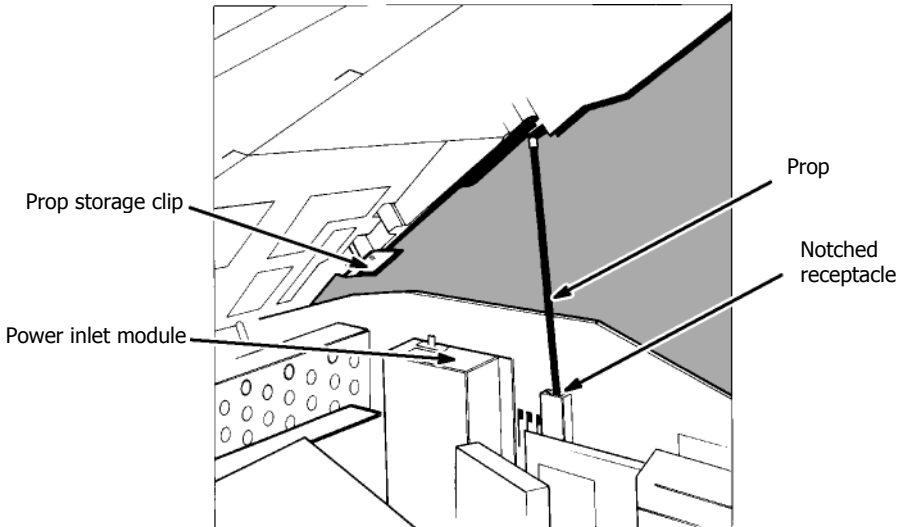

Figure 2 Propping Open the Main Cover
9. Support the cover with the prop, which is stored on the underside of the main cover to the right. Insert the free end into the notched receptacle (Figure 2).